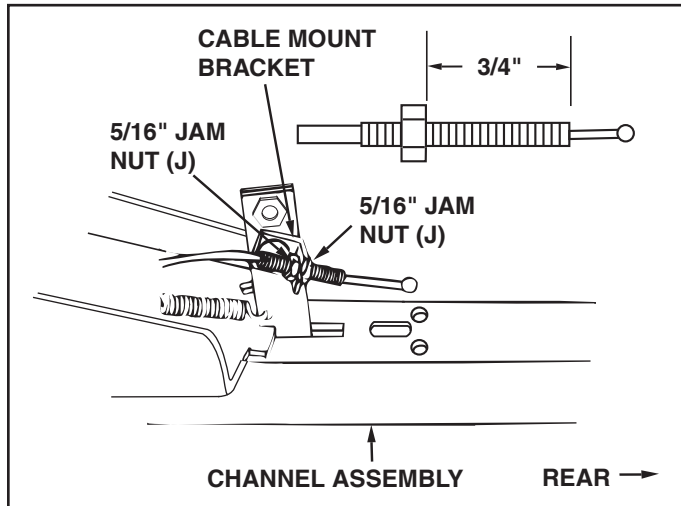

FIGURE 19 (Left Hand Side View)
STEP 5: (SEE FIGURE 19)
- Assemble one 5/16" jam nut (J) approximately 3/4" onto threaded end of control cable that has no rubber cap or preassembled nuts. Assemble threaded cable end through round hole in cable mount bracket and secure with another 5/16" jam nut (J). **Tighten.**